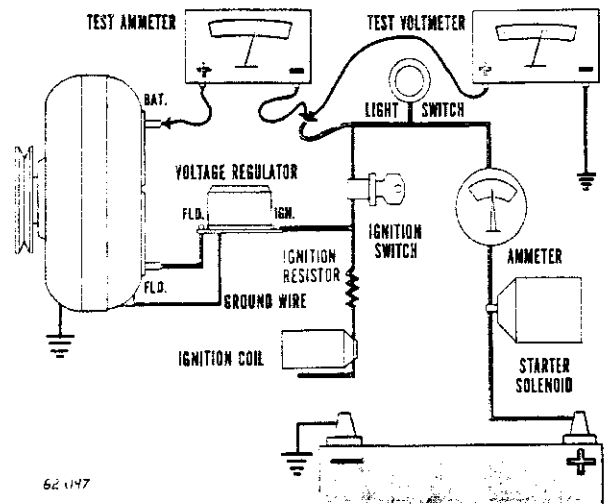

Fig. 49—Voltage Regulator Test
d. Voltage Regulator Test (on the Vehicle—Engine at Normal Operating Temperature (Fig. 49)
- (1) If the alternator current output tested satisfactorily; turn off the ignition switch and remove the jumper lead from the alternator "field" terminal and "output" terminal. Connect the field lead at the alternator field "FLD" terminal and regulator field "FLD" terminal. The test ammeter and test voltmeter leads remain connected as for the current output test.